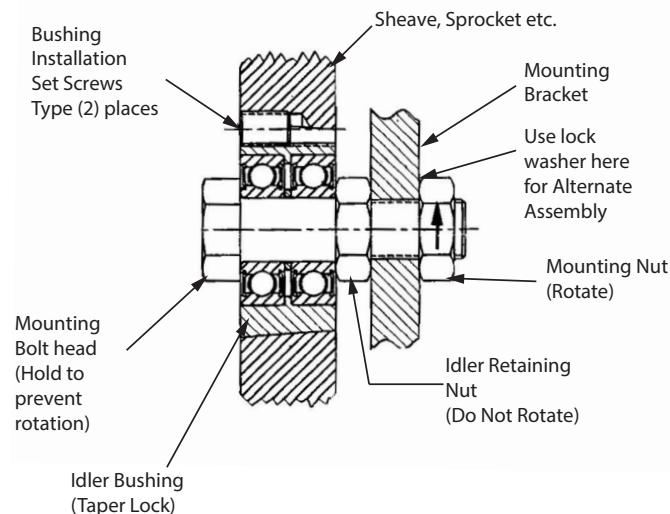

Figure 1 -- Preferred Assembly TAPERLOCK Bushings
3. Hold the mounting bolt head stationary to prevent rotation, and tighten mounting nut to 40 lb-ft, as shown in Figure 1. DO NOT over-tighten the mounting nut.
1. Slip the sheave onto the idler bushing and hand tighten the three (3) bushing retaining bolts. DO NOT fully tighten the bushing retaining bolts at this time.